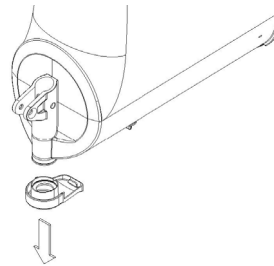

figure 13
- Remove the flow restrictor from the bowl (see figure 13).
- 7 Remove the flow restrictor from the container (see figure 13).
- 5** Remove the flow restrictor from the container (see figure 13).